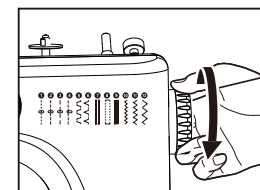

Fig.10
7. When you finish the sewing, turn off the switch, unplug the adapter, turn the handwheel to raise the needle all the way up, lift the presser foot, and then gently remove the fabric from the sewing machine, and cut the thread with the thread cutter. (Fig.10).